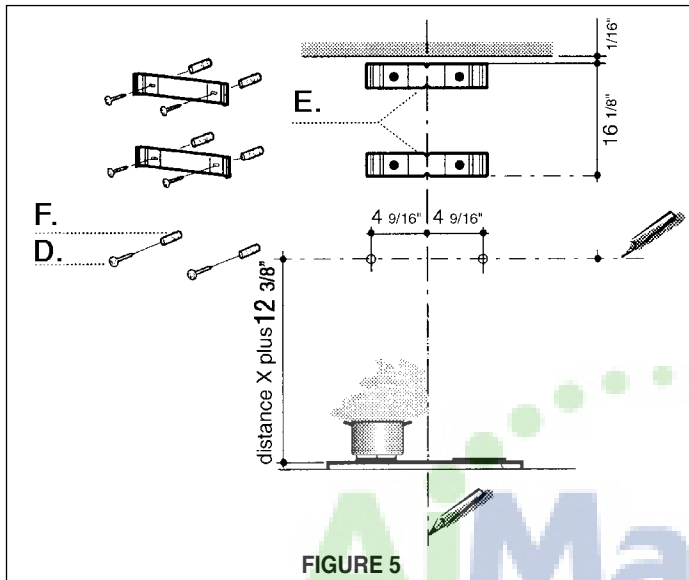

FIGURE 5
3. Based on your ceiling height and/or personal preference, determine the distance you would like between the bottom of the hood and the cooktop (**distance X in FIGURE 4A OR 4B**). Draw a horizontal line the height of **distance X plus 12 3/8"** (as indicated in **FIGURE 5**).